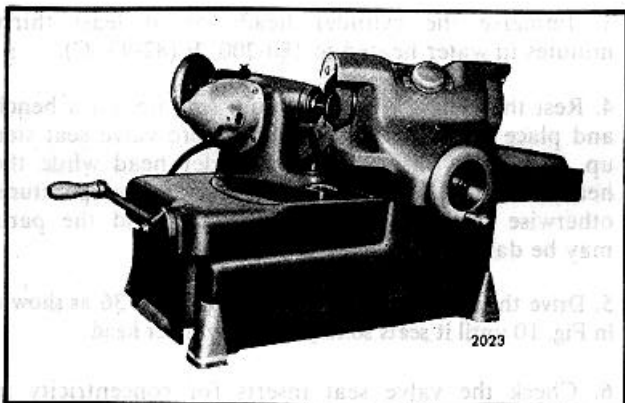
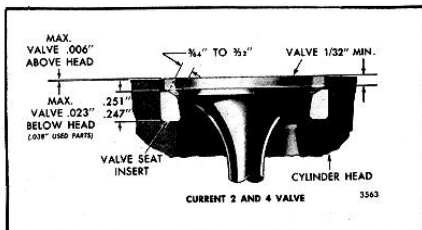

Fig. 11. Refacing Exhaust Valve
Fig. 14 - Relationship Between New Exhaust Valve, Insert and Cylinder Head
An exhaust valve which is to be reused may be refaced, if necessary (Fig. 11). To provide sufficient valve strength and spring tension, the edge of the valve at the valve head must not be less than .031 " in thickness and must still be within the specifications shown in Fig. 14 after refacing.
3. Grind the top surface of the insert with the 15 ° wheel to narrow the width of the seat to the dimensions shown in Fig. 14. The 31° face of the insert may be adjusted relative to the center of the valve face with the 15 ° and 60 ° grinding wheels.
The maximum amount the exhaust valve should protrude beyond the cylinder head (when the valve is closed) and still maintain the proper piston-to-valve clearance is shown in Fig. 14. Grinding will reduce the thickness of the valve seat insert and cause the valve to recede into the cylinder head. If, after several grinding operations, the valve recedes beyond the specified limits, replace the valve seat insert.
10. Check the position of the exhaust valves (Fig. 14). Support the cylinder head at each end with wood blocks and remove the masking tape so that the exhaust valves are free. Then give the end of the valve stem a sharp tap with a plastic hammer to seat the valve locks. This will aid in the proper seating of the valve locks and reduce the chances of failure.